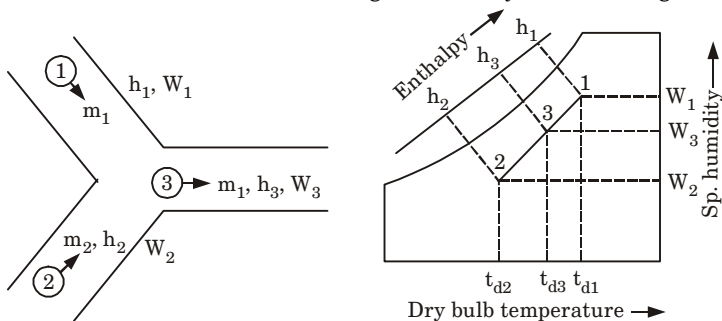

Fig. 4.18.8. Adiabatic mixing of two air streams.
2. The two air streams 1 and 2 mixing adiabatically is shown in Fig. 4.18.8.